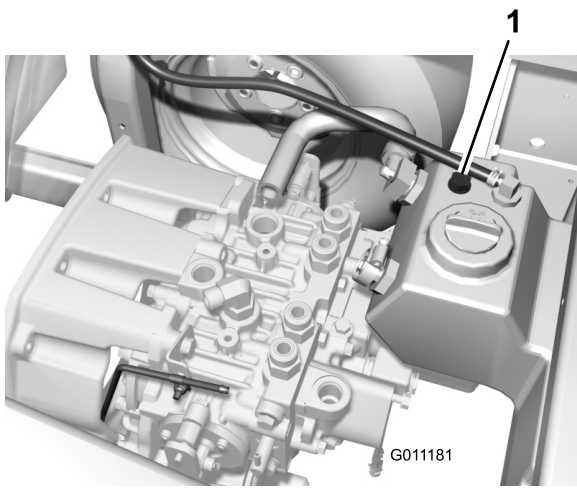

Figure 9
4. Install the grommet plug into the opening in the hydraulic tank (Figure 9).